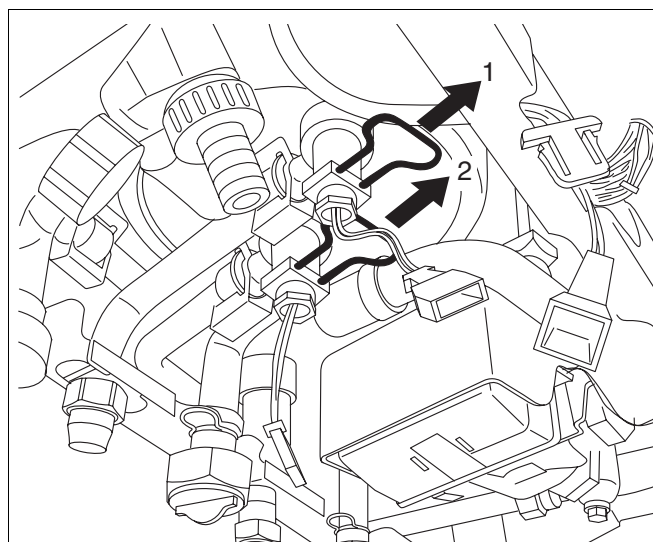

Fig. 77 Changing the hot water / boiler sensor
- Pull out the sensor fuses (fig. 77).